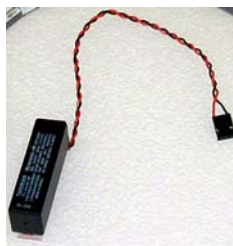

**Figure 11-2. MB-10 Internal Battery Location**
6. Locate the M3 screw, washer, and sheet metal retaining clip which retain the battery (see Figure 11-2). Remove the screw and washer.